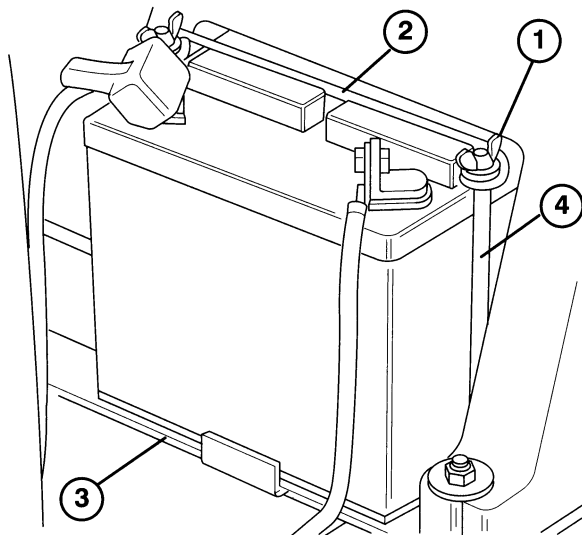

Figure 1
2. Remove the wing nuts and washers securing the battery clamp to the battery bolts and remove the battery from the machine. Remove the filler caps from the battery and slowly fill each cell until electrolyte is just above the plates (Fig. 1)